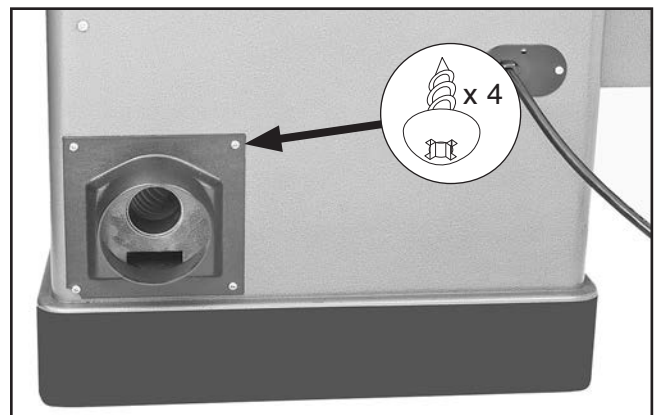

Figure 24. Dust port installed.
13. Mount dust port onto cabinet with (4) pre-installed tap screws, as shown in **Figure 24**.